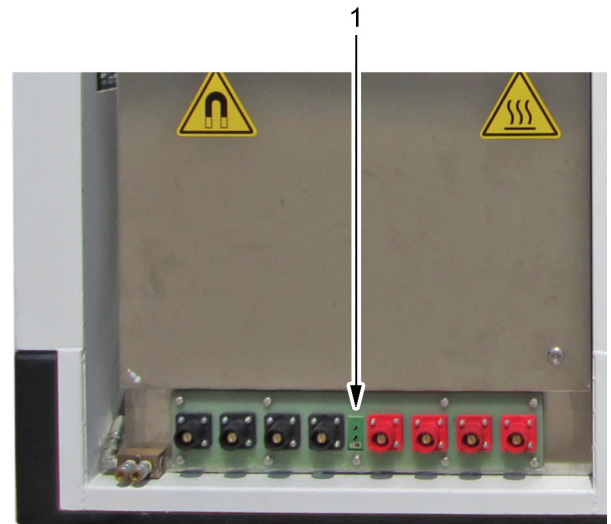
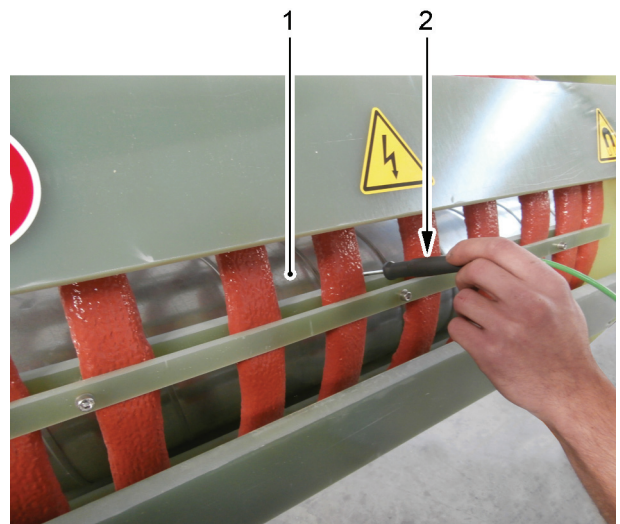

Figure 6.16 - Temperature transducer connector
Figure 6.17 - K thermocouple type temperature probe
The Induction Heating Generator IHG 120CU may be equipped with an automatic system that stops the heating cycle when the pipe reaches a preset temperature. In order to use this functionality it is necessary to connect to the temperature transducer socket connector (see Figure 6.16/1) a K thermocouple type temperature probe (see Figure 6.17/2). During the heating cycle the temperature probe shall be in contact with the section of the pipe (1) to be heated.